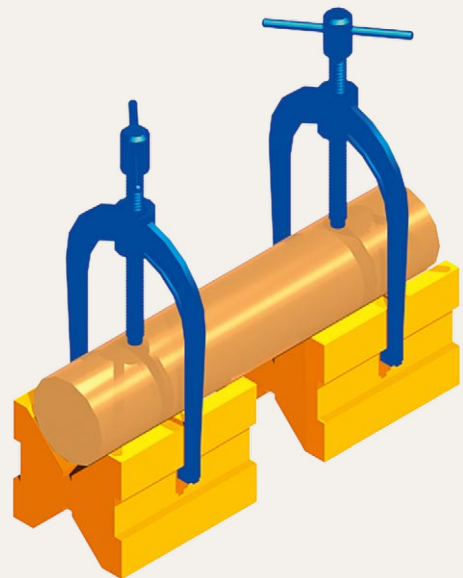
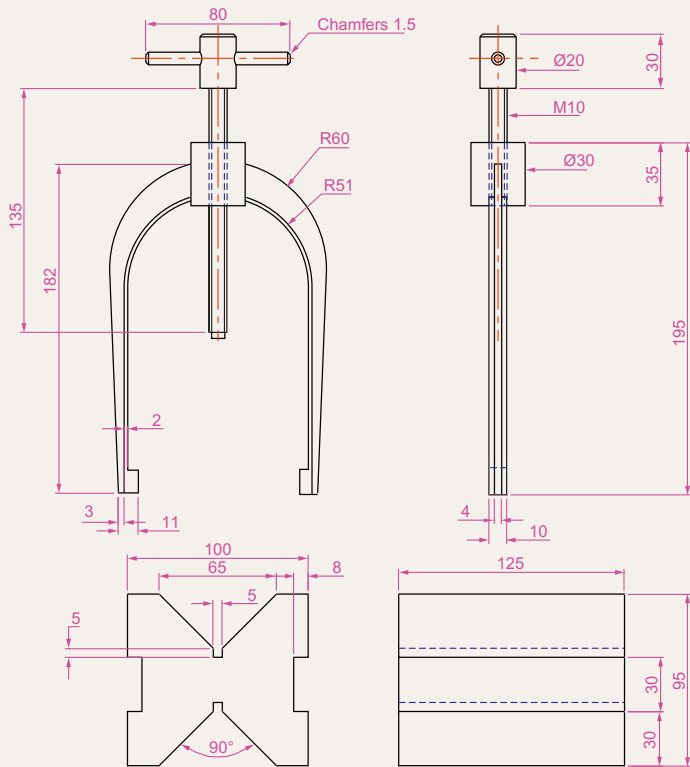

Fig. 19.20 Exercise 2
Fig. 19.21 Exercise 2 – orthographic projection
2. Fig. 19.20 shows a rendering of the model for this exercise and Fig. 19.21, an orthographic projection, giving shapes and sizes for the